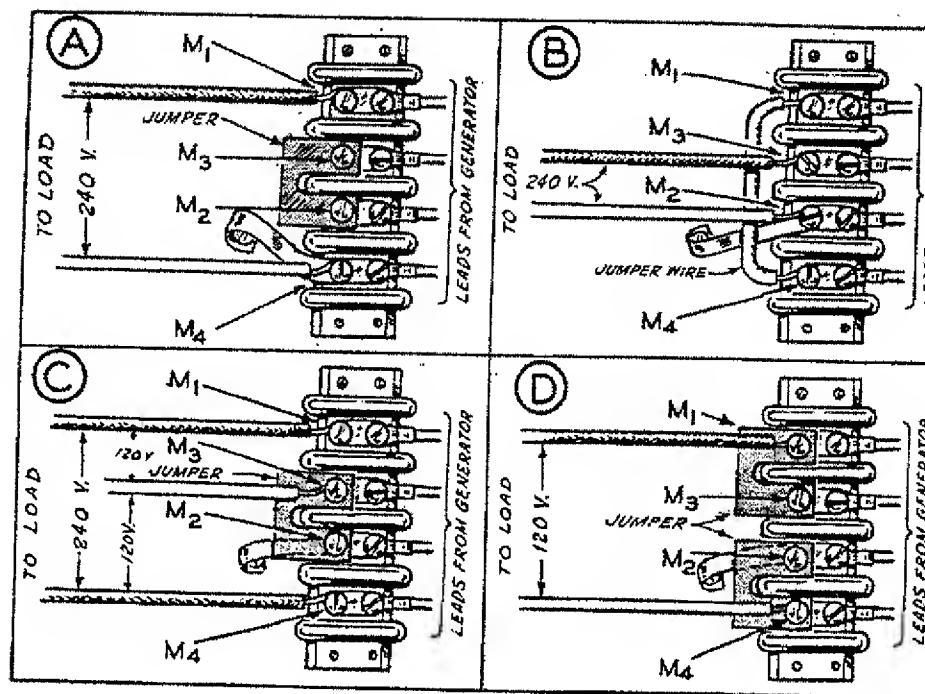

Fig. 6 Single Phase Plant
Load connections are to be made to terminals inside the terminal box on the side of the generator. These load terminals are marked M1, M3, M2, and M4 from top to bottom. When the plant is shipped, two heavy jumper bars are connected across terminals M3 and M2. This jumper connection provides for two 120 volt circuits (with 1/2 the plant capacity available on each separate circuit), or one 240 volt circuit. Refer to C, Fig. 6. For 120 volt service, connect the black (hot) wires to the M1 and M4 terminals, and the white (ground) wire to the M2 or M3 terminal. Remember that **ONLY ONE HALF** the rated capacity of the plant will be available on either of the two separate 120 volt circuits. The two black wires will give 240 volt ungrounded service.
If the full rated capacity of the plant at 120 volts **ON ONE CIRCUIT ONLY**, is desired, remove the two jumper bars from across terminals M3 and M2. Reconnect the jumper bars, one across terminals M1 and M3, and the other jumper across terminals M2 and M4. Connect the black (hot) load wire to the M1 terminal, and the white (ground) wire to the M4 terminal. Refer to D, Fig. 6.
If 240 volt current only is to be used, and **NEITHER** load wire is white (grounded), leave the jumpers connected across terminals M3 and M2. Connect load wires to terminals M1 and M4. Refer to C, Fig. 6.
1. Remove the two jumper bars connecting terminals M3 and M2, temporarily. Disconnect the short grounding wire from the M2 terminal and connect it to the M4 terminal. Reconnect the jumper bars across terminals M3 and M2. Connect the black (hot) load wire to the M1 terminal, and the white (grounded) load wire to the M4 terminal. Refer to A, Fig. 6.
2. Remove (and save for possible future use) the two jumper bars connecting terminals M3 and M2. Using a short length of #10 or larger wire, connect terminals M1 and M4 together. Connect the black (hot) load wire to the M3 terminal, and the white (grounded) load wire to the M2 terminal. Refer to B, Fig. 6.
Be sure the jumper connections are properly made, as explained under **VOLTAGE SELECTION, SINGLE PHASE PLANT**. Connect the load wires to the proper terminals as shown, according to the jumper connections made, Fig. 6.
Some early plants with SPEC designation ending in the letter "A" were not internally grounded. If inspection shows that there is no ground jumper wire between the M2 terminal and a grounding screw inside the terminal box (Fig. 6), a similar ground connection must be made. Run a short length of No. 10 wire between the battery negative terminal and the M2 terminal, if 115/230 volt service is to be used. If grounded 230 volt service is to be used, connect the ground jumper to the M4 terminal, instead of to the M2 terminal. **BE SURE THIS GROUND JUMPER WIRE IS PRESENT IN ALL CASES WHERE USING AUTOMATIC CONTROL EQUIPMENT.**